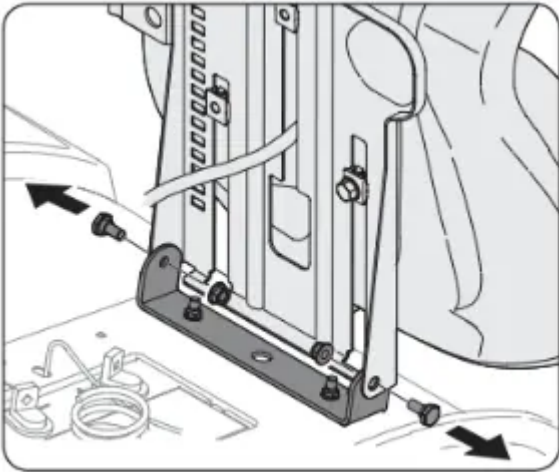

Figure 2
- Remove the two shoulder screws and flange lock nuts in the seat pan as shown in Figure 2.